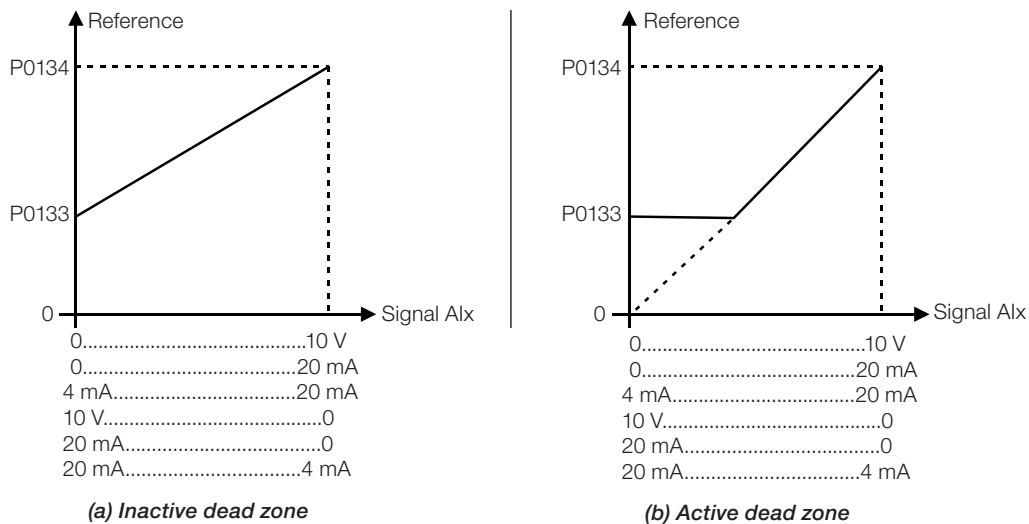

Figure 12.1: (a) and (b) Actuation of the analog inputs with inactive dead zone
This section presents the parameters to configure the MW500 inputs and outputs. This configuration depends on the plug-in module, as per Figure 12.1 on page 12-2.
If the parameter is configured as Inactive (P0230 = 0), the signal in the analog inputs will actuate on the frequency reference from the minimum point (0 V / 0 mA / 4 mA or 10 V / 20 mA), and it will be directly related to the minimum speed set in P0133. When using PID special function (P0203) via AI1 (1) or AI3 (2), PID setpoint (P0041) value goes to zero and not to the minimum speed (P0133). Check Figure 12.1 on page 12-2.
If the parameter is configured as Active (P0230 = 1), the signal in the analog inputs will have a dead zone, where the speed reference remains at the Minimum Speed value (P0133), even with the variation of the input signal. Check Figure 12.1 on page 12-2.
In the case of analog inputs AI3 set for -10 V to +10 V (P0243 = 4), we will have curves similar to Figure 12.1 on page 12-2; except that when AI3 is negative, the direction of rotation will be the opposite.